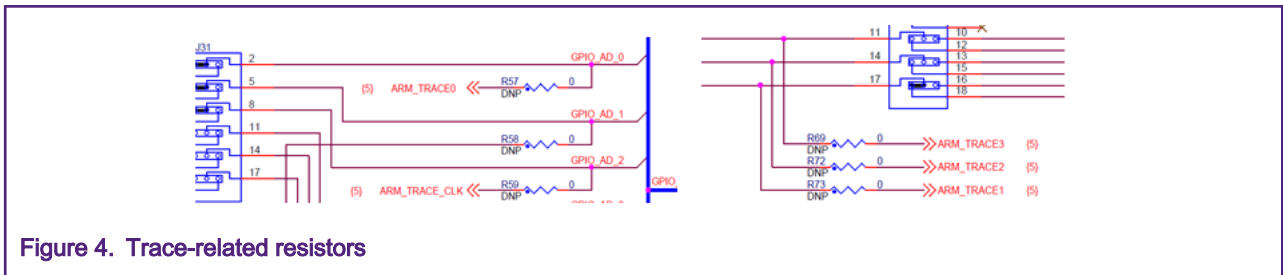

Figure 4. Trace-related resistors
- Weld trace-related resistors, TRACE\_CLK (R59), TRACE0 (R57), TRACE1 (R73), TRACE2 (R72), and TRACE3 (R69). Disconnect other signal jumpers on the signal line, as shown in Figure 4.